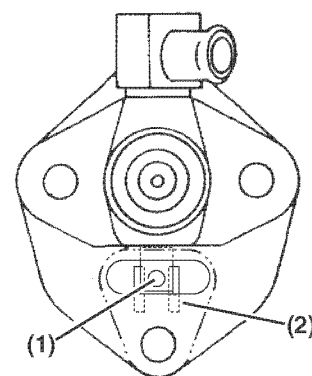
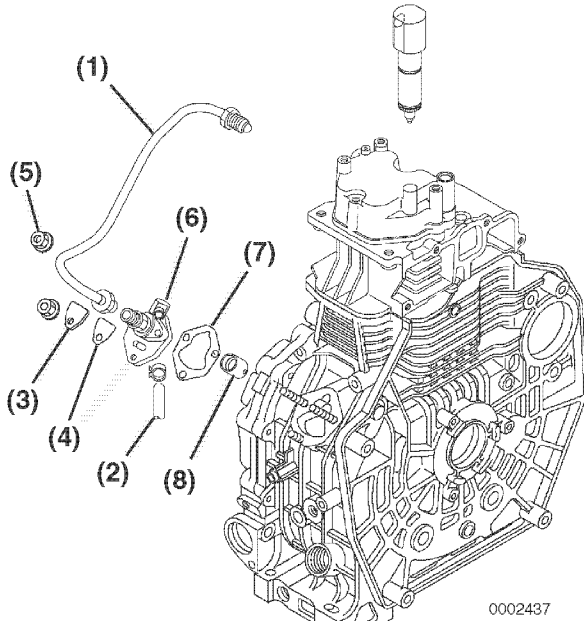

Figure 7-18
Figure 7-19
3. Install the original fuel injection pump shim(s) (**Figure 7-19, (7)**).
4. Install the fuel injection pump (**Figure 7-19, (6)**) into the crankcase, ensuring that the fuel injection pump lever pin (**Figure 7-18, (1)**) is engaged in the governor lever fork (**Figure 7-18, (2)**).
5. Install the two side mounting nuts (**Figure 7-19, (5)**) and tighten to specification. See *Special Torque Specifications* on page 7-4.
Note: If the original fuel injection pump, camshaft and injection pump tappet (**Figure 7-19, (8)**) are being reused, you do not need to recheck the fuel injection timing. If any of these components have been replaced, it will be necessary to check the fuel injection timing. See *Checking and Adjusting Fuel Injection Timing* on page 7-11.
6. Install the inspection cover (**Figure 7-19, (3)**), gasket (**Figure 7-19, (4)**) and nut. Tighten to specification. See *Special Torque Specifications* on page 7-4.
7. Install the fuel injection high-pressure fuel injection line (**Figure 7-19, (1)**). Tighten the nuts to specification. See *Special Torque Specifications* on page 7-4.
8. Install the fuel supply line (**Figure 7-19, (2)**).